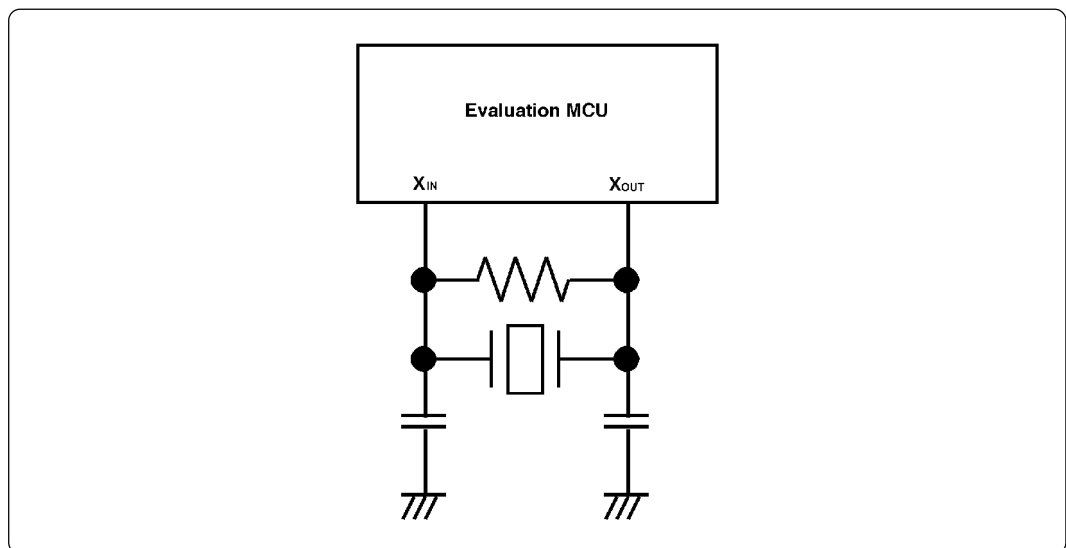

Figure 3.4 Circuit in which oscillation does not occur (same for XCIN-XCOUT)
- Make note of the fact that in the oscillator circuit shown in Figure 3.4 where a resonator is connected between the XIN and XOUT pins, oscillation does not occur because a flexible cable, buffer IC and other devices are used between the evaluation MCU and the target system. It is same for sub-clock oscillator circuits (XCIN and XCOUT).